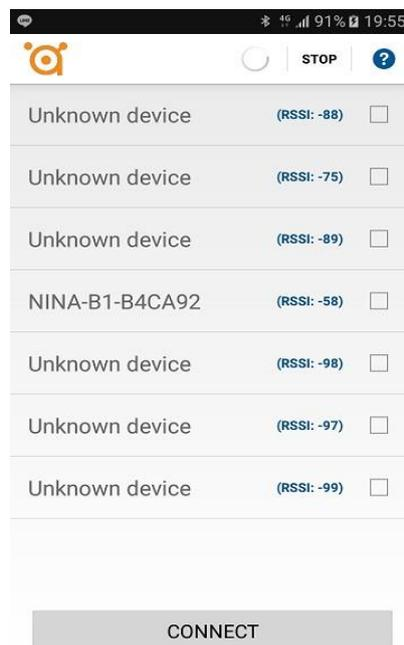

Figure 2
3. Launching ANTZER BLE ANTZER-BLE app as Figure 2
4. For re-connection of BLE device, click Android device button ( ) to initialize connection(as Figure 2).